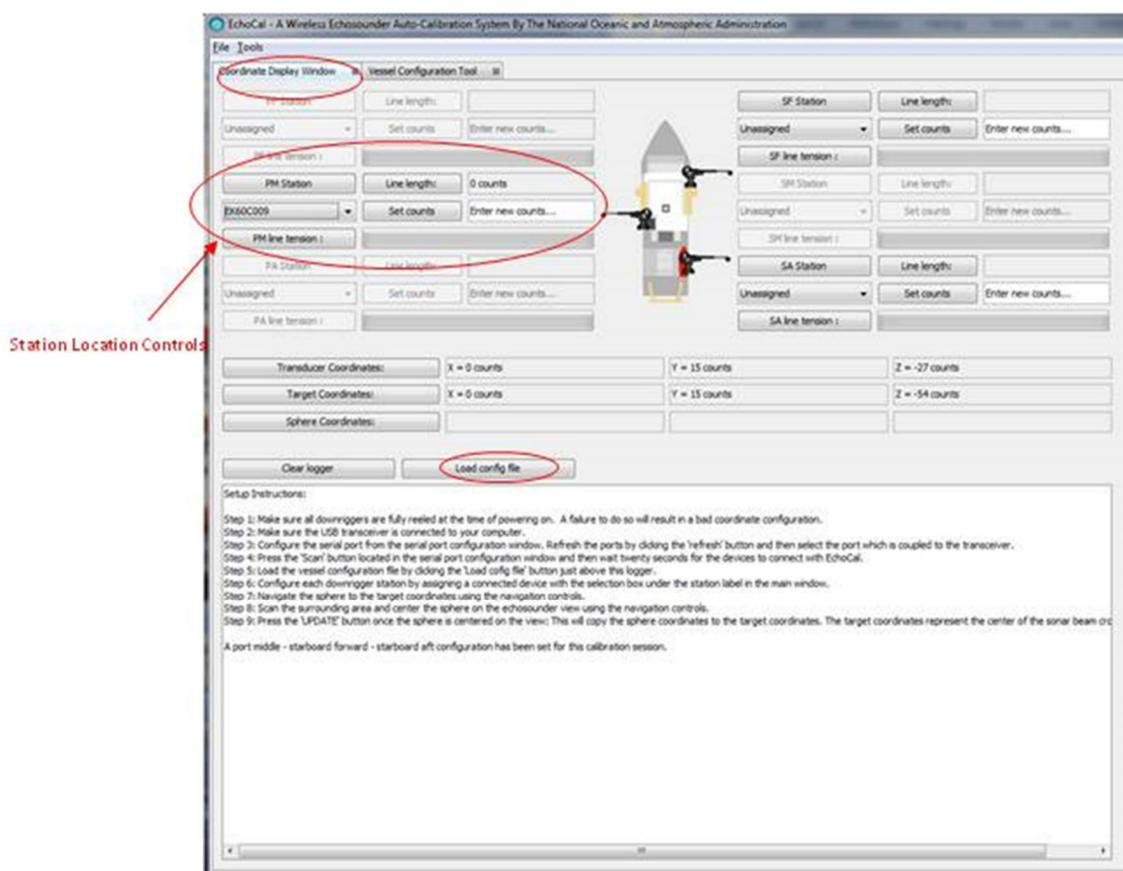

Figure 7: Vessel configuration interface
- a. Select the Coordinate Display Window tab, and click on the “Load config file” button (Figure 7).